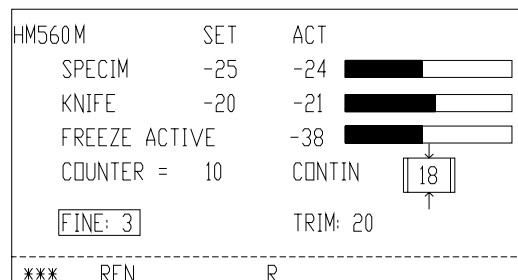

Fig. 18
- The course of the changing temperature will then be shown on the display (fig. 18) as a figure and as on a thermometer.